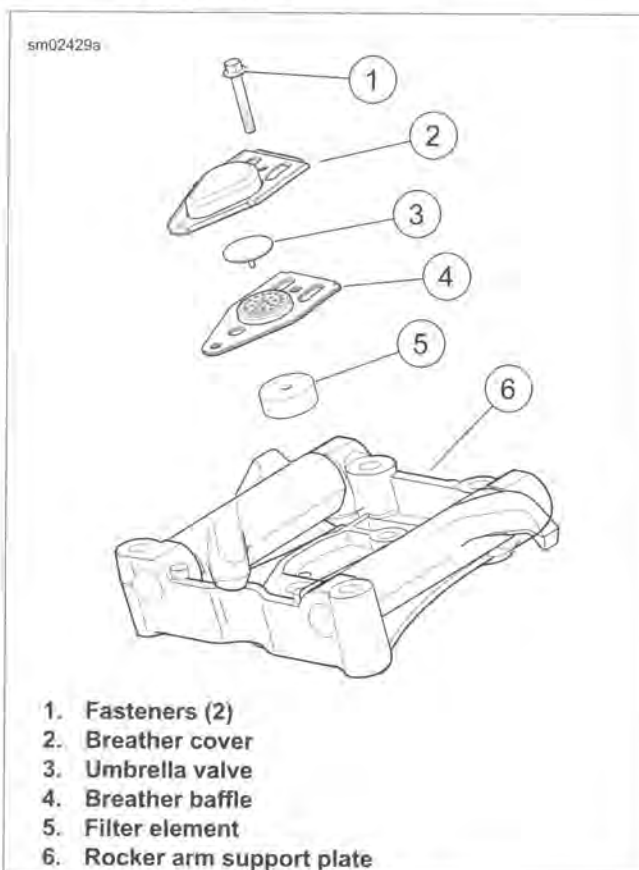

Figure 3-26. Breather Assembly
See Figure 3-26. Breather baffle assembly is manufactured with gaskets attached. Replacement part is supplied with the filter element (5) and umbrella valve (3). Any time the breather is disassembled, the baffle assembly must be replaced with a **new** assembly.
2. Remove two fasteners (1) and remove breather cover (2).
3. Remove breather baffle (4). Discard breather baffle, filter element (5) and umbrella valve (3).
See Figure 3-26. Install breather assembly and rocker cover using **new** baffle assembly. See 3.25 TOP END OVERHAUL: ASSEMBLY, Breather and Rocker Cover.